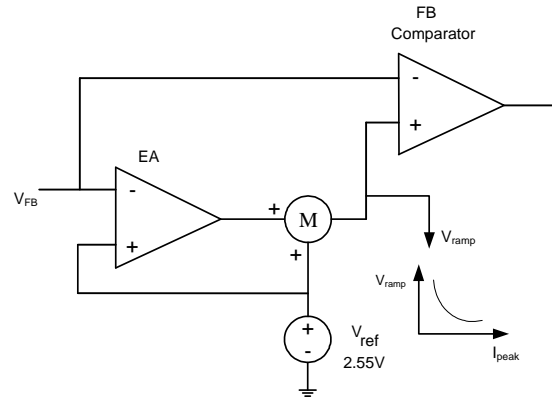

Figure 4: EA and Ramp Compensation
The MPQ4590 has an internal error amplifier (EA) compensation loop that samples the feedback voltage $6\mu\text{s}$ after the MOSFET turns off and regulates the output based on the 2.55V reference voltage (see Figure 4).
An internal ramp compensation circuit is used to improve the load regulation. An exponential voltage signal is added to pull down the reference voltage of the feedback comparator (see Figure 4). The ramp compensation is a function of the load conditions: the compensation is about $1\text{mV}/\mu\text{s}$ under full-load conditions, and the compensation increases exponentially as the peak current decreases.